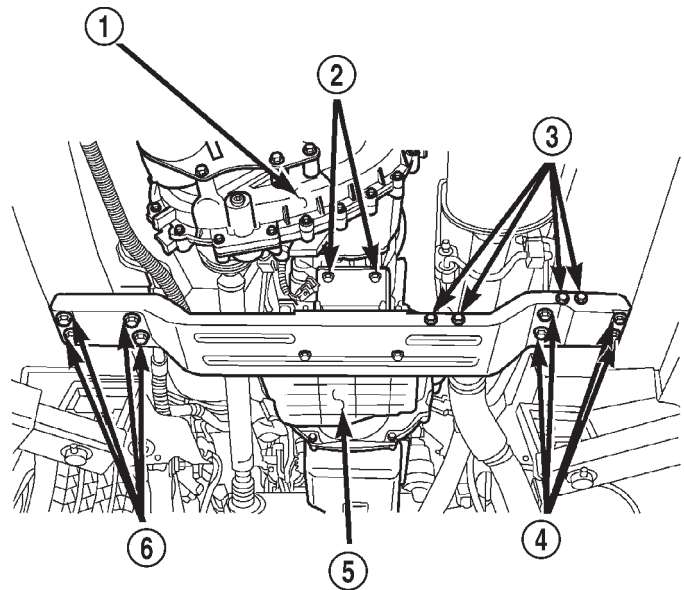

Fig. 26 Transmission Support Crossmember
(21) Install the upper six bellhousing bolts. Torque the bolts to 102 N·m (75 ft. lbs.).
(22) Raise the transmission assembly back into position and install the eight transmission crossmember retaining bolts (Fig. 26). Torque the bolts to 41 N·m (30 ft. lbs.).